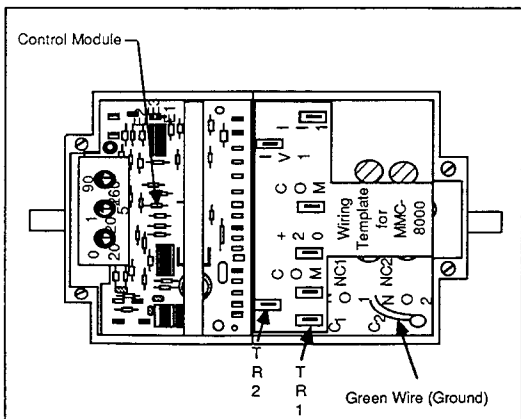

Figure 3. Terminal Board Connections With Wiring Template
5. The template supplied can be used for easy terminal installation. Place the template over the terminal block (See Figure 3).